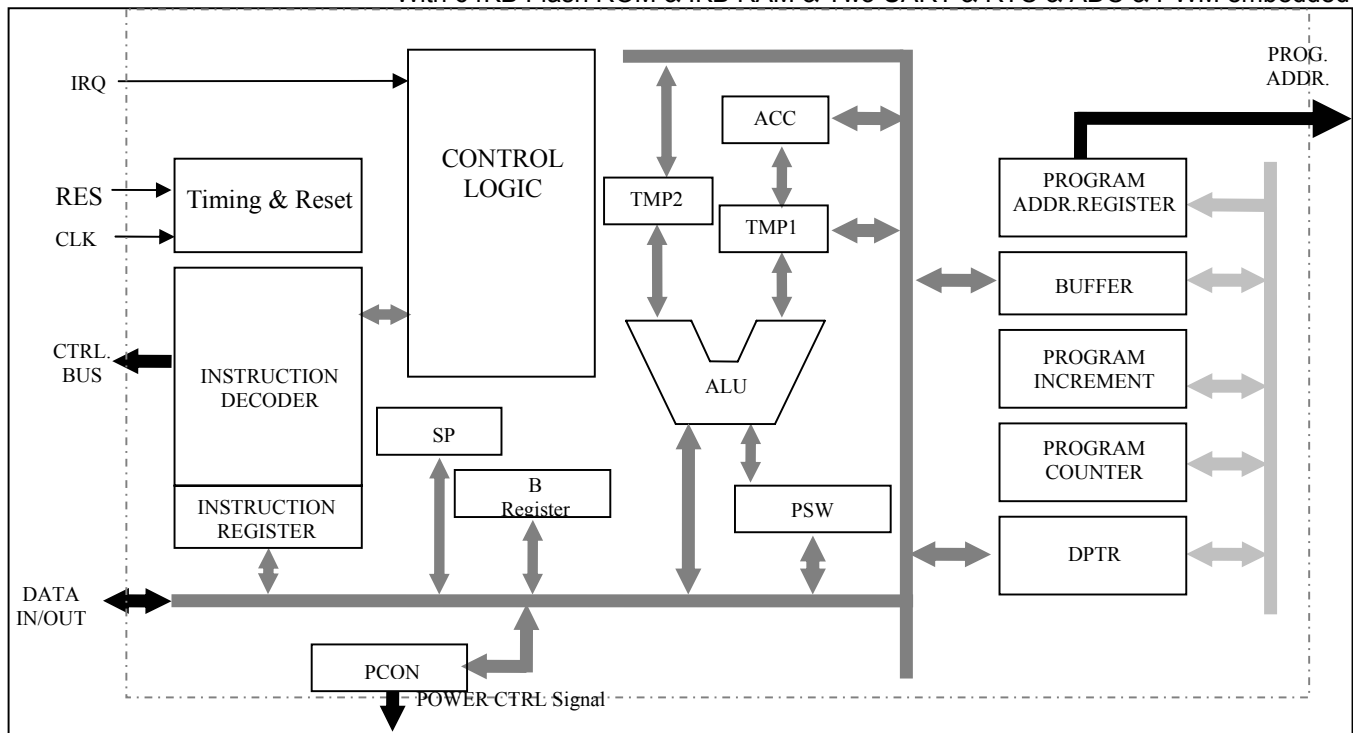

Figure 12 The CPU Structure
The CPU of SM89T16R1 is High-Speed 80C51. The structure of this CPU is shown as FIGURE 12. It contains Instruction Register (IR), Instruction Decoder, Program Counter (PC), Accumulator (ACC), B Register, and control logic. This CPU provides an 8-bits bi-direction bus to communicate with other blocks in the chip. The address and data are transferred through on the same 8-bits bus.